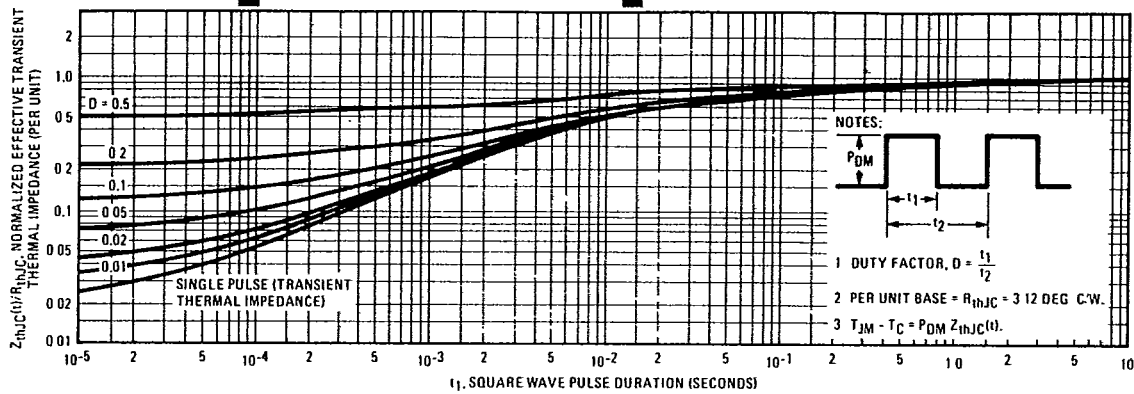

Fig. 5 — Maximum Effective Transient Thermal Impedance, Junction-to-Case Vs. Pulse Duration
- ① $T_J = 25^\circ\text{C}$ to 150°C . ② Pulse Test: Pulse width $\leq 300\mu\text{s}$, Duty Cycle $\leq 2\%$. ③ Repetitive Rating: Pulse width limited by max. junction temperature. See Transient Thermal Impedance Curve (Fig. 5).
④ $\text{K/W} = ^\circ\text{C/W}$